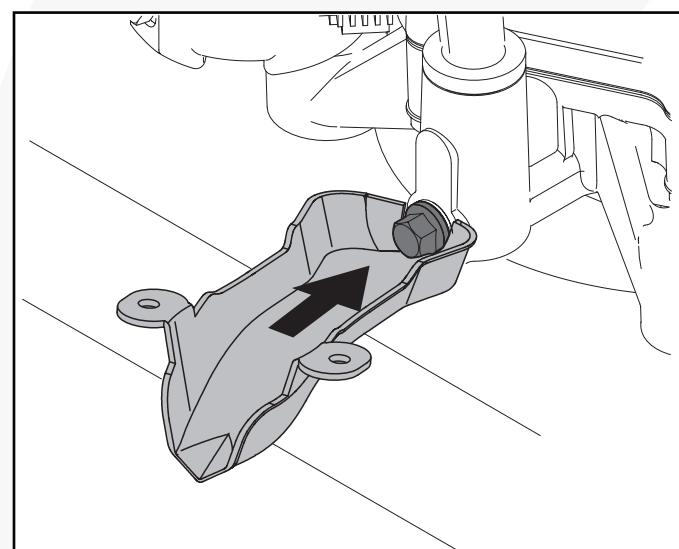

Fig. 37
3. Place the oil drain sleeve (included with tractor) under the drain plug. (Fig. 37)